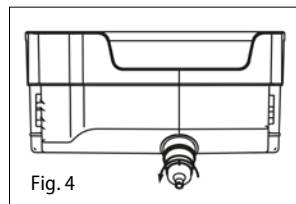

Fig. 4
- Turn anti-clockwise to remove the water valve assembly to clean it. (Fig. 4)